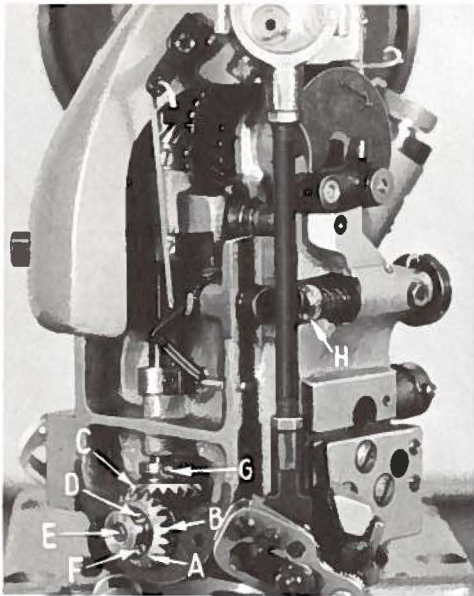
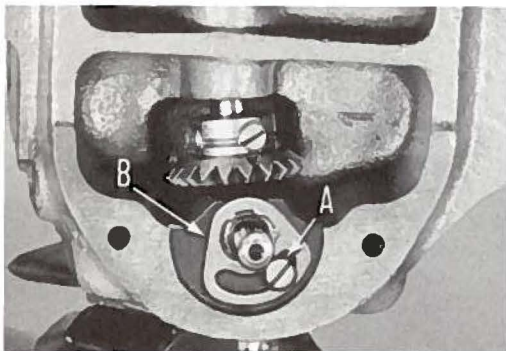

Fig. 8
Fig. 10
Turn the handwheel in operating direction until the needle has completed its forward travel (away from operator) and has started its backward travel. At this time the point of the hook should be over the center of the needle approximately $1/16$ inch from the top of the needle eye. If this is not the case, remove the gear cover, located in the back of the machine, and the presser foot. Check to be sure that the timing line (A, Fig. 8) on gear (B) is in line with a similar timing line on gear (C) and that the spot screw (D) on gear (B) is in the "V" groove on the hook shaft (E). If adjustment is necessary, turn the handwheel until the timing line on gear (C) is in line with the hook shaft. Then, loosen screws (D and F) on gear (B) and turn gear until its timing line is in line with timing line on gear (C). Turn hook shaft (E) until "V" groove is aligned with spot screw (D). Retighten screw (D) in "V" groove and also screw (F) on gear (B).
The removal of these different parts is explained in their respective sections. Once these parts are removed, remove the gear cover, exposing gears (B and C, Fig. 8). Loosen screws (D and F, Fig. 8) and slide the hook out.
The point of the hook should be set as close to the needle as possible without striking it. To make this adjustment, loosen screws (D and F, Fig. 8) and remove gear (B), exposing hook bushing flange (B, Fig. 10). Loosen screw (A) and rotate the hook bushing flange in the required
direction to position the hook point as described above. If the hook bushing flange cannot be turned far enough to secure this setting, remove screw (A) and place it in the alternate hole in the casting to secure more adjustment. Tighten screw. Replace gear (B, Fig. 8) as described in "Removing and Replacing Hook".
The needle thread tension is adjusted by turning thumb nut (H, Fig. 8) to the right or to the left. This tension should be set sufficiently tight to make a firm stitch. Do not, however, make this adjustment too tight. Improper adjustment of the needle tension may cause thread breakage.